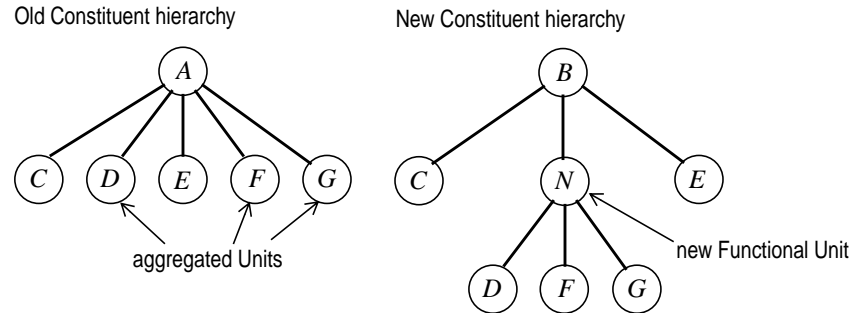

FIGURE 7. Functional Unit aggregation - example
1. Call the top Functional Unit of the active Layout *A*. SEED-Layout creates a variant of the active Layout Problem and a copy of *A*. Call this copy *B*. SEED-Layout makes *B* the top Functional Unit of the Layout Problem variant. The Constituents of *B* are the Constituents of *A* except for the Functional Units associated with the Design Units inside the selected rectangle; these units are replaced by the Functional Unit created in step 2; call this Unit *N*. The replaced Functional Units become the Constituents of *N* (see Figure 7).
1. Call the top Functional Unit of the active Layout A . SEED-Layout creates a variant of the active Layout Problem and a copy of A . Call this copy B . SEED-Layout makes B the top Functional Unit of the Layout Problem variant. The Constituents of B are the Constituents of A except for the Functional Units associated with the Design Units inside the selected rectangle; these units are replaced by the Functional Unit created in step 2; call this Unit N . The replaced Functional Units become the Constituents of N (see Figure 7).